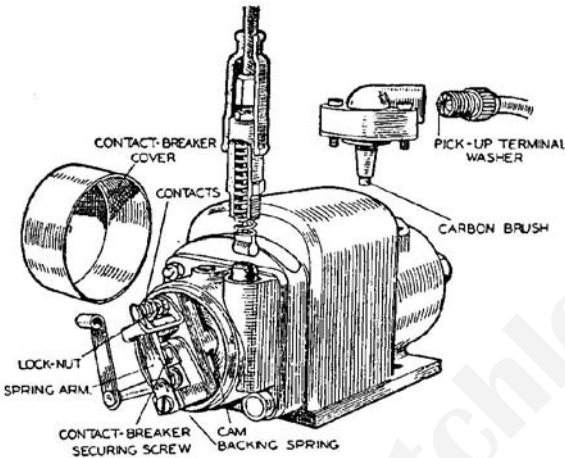

FIG. 45. SHOWING DETAILS OF LUCAS ROTATING ARMATURE TYPE MAGNETO (1945-53)
- (1) Remove the contact-breaker cover and rotate the engine slowly forwards until the contacts of the contact-breaker are wide open.
- (2) Insert the blade of the feeler gauge (attached to the magneto spanner) between the contacts.
- (3) If the feeler gauge just slides in without friction, the gap is correct and no adjustment is needed. If the gauge is a slack fit or the contacts have to be sprung to enable it to enter, adjust the gap as below.
- (4) With the magneto spanner loosen the nut which secures the inner-contact screw (see Fig. 45) and then adjust this screw by means of its hexagon head until the correct gap is obtained between the fixed (outer) and adjustable (inner) contacts.
- (5) Retighten the contact screw lock-nut and again check the gap. If correct, replace the contact-breaker cover.
To ensure this, remove the spring arm, or contact-breaker lever (see Figs. 45 and 46) carrying the moving contact, by withdrawing (1945-53) the fixing screw and spring washer, or (1954 onwards) the nut securing the end of the contact-breaker spring. When replacing the spring arm on the rotating-armature magneto (1945-53), be sure to fit the small backing spring (see Fig. 45) correctly. The curved portion must face outwards. Remove any rust from the spring.
To Renew Ignition-Control Cable (1945-53). As may be seen in Fig. 45 slackness in the cable for advancing and retarding the spark can be rectified by means of the cable stop after pushing the rubber protector upwards and slackening the lock-nut. If, however, the cable frays, breaks or stretches unduly, it is necessary to renew the cable in the following manner.
Cleaning the Slip-ring (1945-53 Models). Misfiring and some difficult starting are sometimes caused by moisture, oil, or dirt collecting on the slip-ring. About every 2,5W-3,000 miles remove the h.t. pick-up (see Fig. 45) from the magneto and thoroughly clean the track and flanges of the slip-ring. The best way of doing this is to cover a pencil with a soft cloth and press this against the slip ring while slowly rotating the engine.
The h.t. Pick-up (1945-53 Models). When cleaning the magneto slipring, also wipe the pick-up moulding and polish it with a fine, dry, cloth. Inspect the moulding for cracks and examine the carbon brush (see Fig. 45) and spring, but be careful not to stretch the spring. If the carbon brush is badly worn, renew it. Before replacing the h.t. pick-up on the magneto, see that the carbon brush moves freely in its holder and beds down properly on the slip-ring. Good electrical contact is important.
To Renew h.t. Cable (1945-53 Models). Always use 7 mm. rubber covered ignition cable. Referring to Fig. 45, bare the end of the cable for about 1/4 in. and thread the cable through the moulded terminal. Pass the wire through the bronze washer and then bend back the cable strands as illustrated. Finally, screw the moulded terminal into the magneto pick-up.